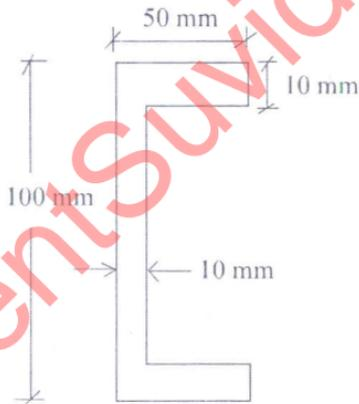

Fig. 4
- (b) What do you mean by shear centre? Find the position of the shear centre for the channel section shown in Fig. 4.